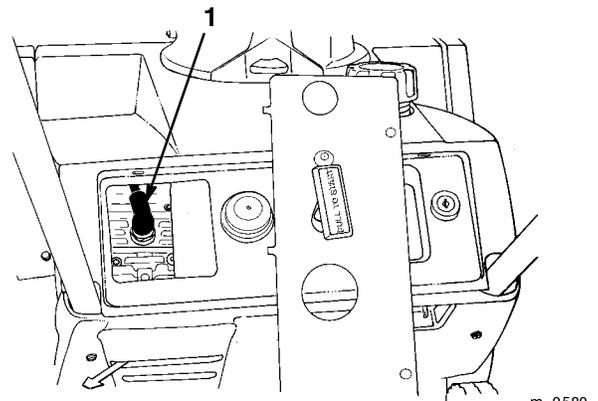

Figure 17
4. Disconnect the wire from the spark plug and remove the spark plug (Fig. 17).
- Disconnect the wire from the spark plug (Fig. 17).